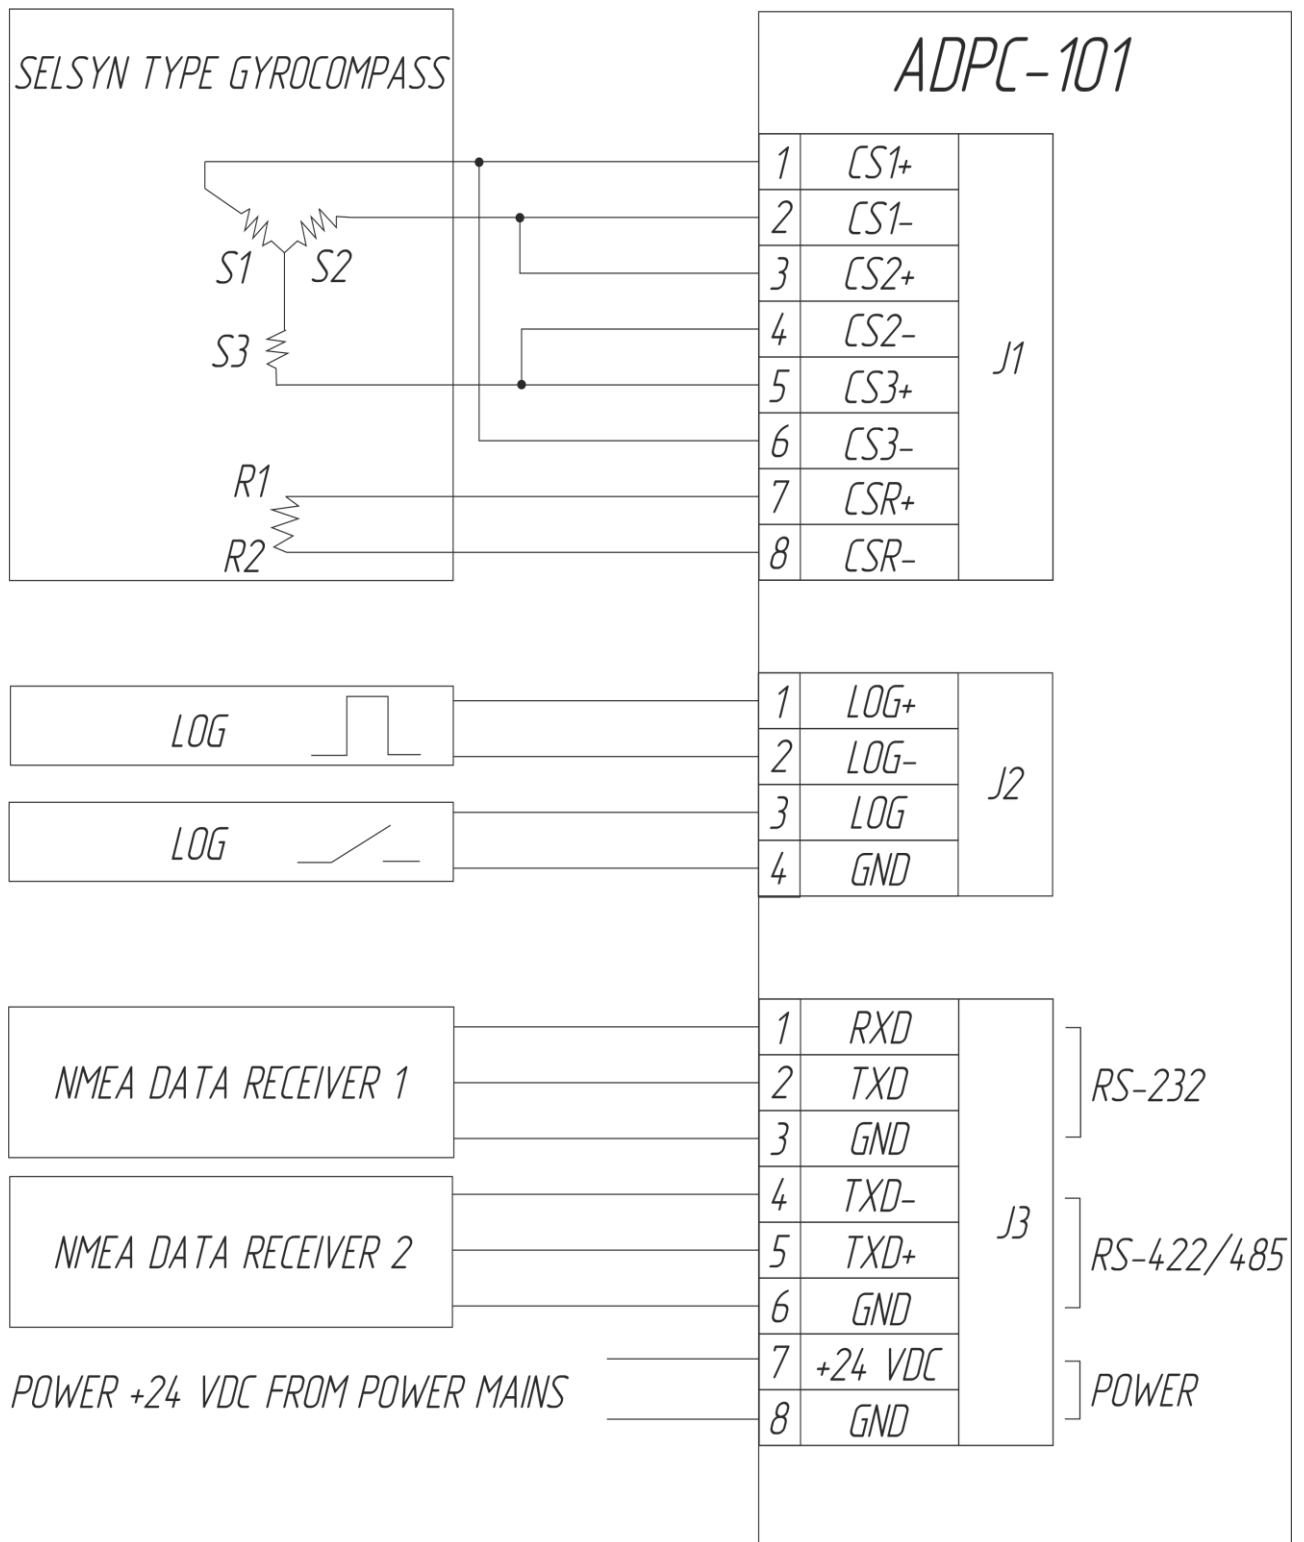
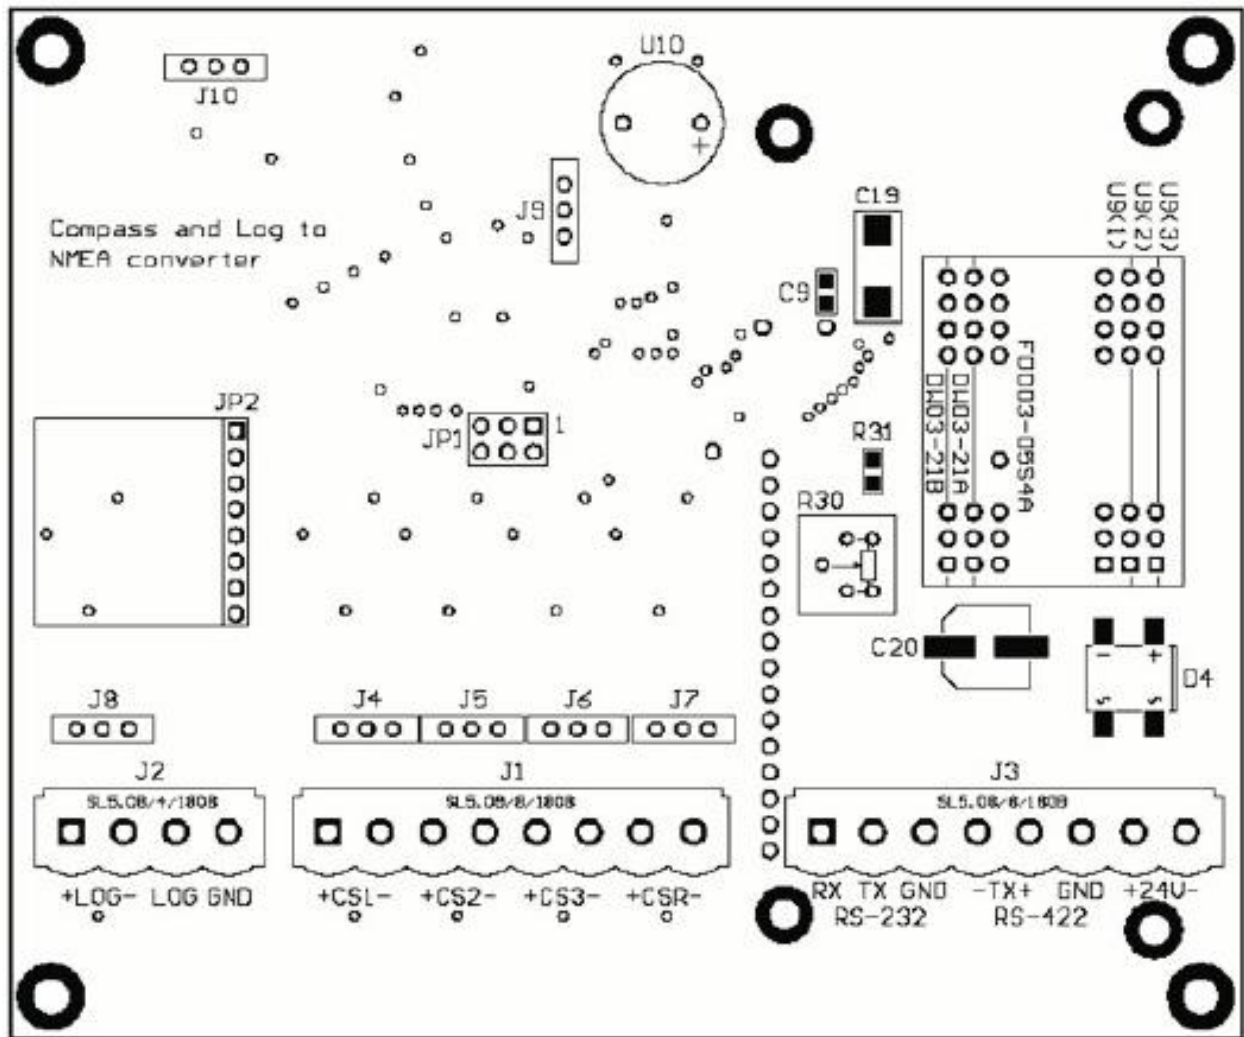

Figure 2 – Connection diagram of selsyn type gyromcompass
Figure 5 – Terminals layout on the Product's printed circuit board
1.3.2 Connection diagrams of the Product are represented in Figures 2–4; for the layout and assignment of printed circuit board terminal connectors, see Figures 5 and Table 3.
To change switching threshold of log and gyrocompass optoisolated inputs, use DIP-switches “J4”, “J5”, “J6”, “J7”, “J8”, and jumpers (see Figure 5). If contacts are closed, threshold input voltage is 6 V, if opened - 3 V.
Connectors “J9”, “J1” (see Figure 5) are used for device configuration at manufacturing stage and not used during operation.